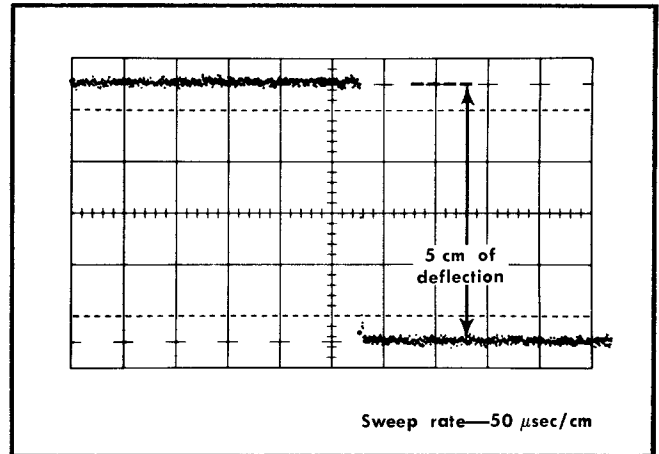

Fig. 2-5. Typical oscilloscope display for checking vertical deflection factor ( $\pm 4\%$ ) with oscilloscope calibrator.
6. Check for 5 cm of vertical deflection (see Fig. 2-5). If the amount of error in the calibrator signal is known, check the display for a vertical deflection of 200 mv/cm.